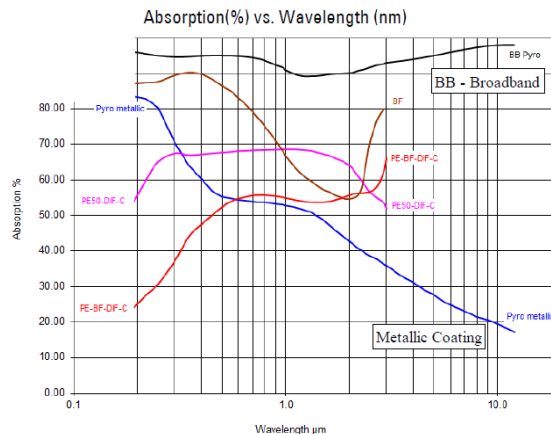

Figure 13-23 Absorption of Newport Pyroelectric Absorbers
- **Metallic Type:** The type with no suffix in the name have a partially reflective multilayer metallic coating which absorbs approximately 50% and whose absorption graph is shown in Figure 13-23 below. The metallic coating permits very high repetition rates, up to 25000Hz as well as relatively high damage threshold.